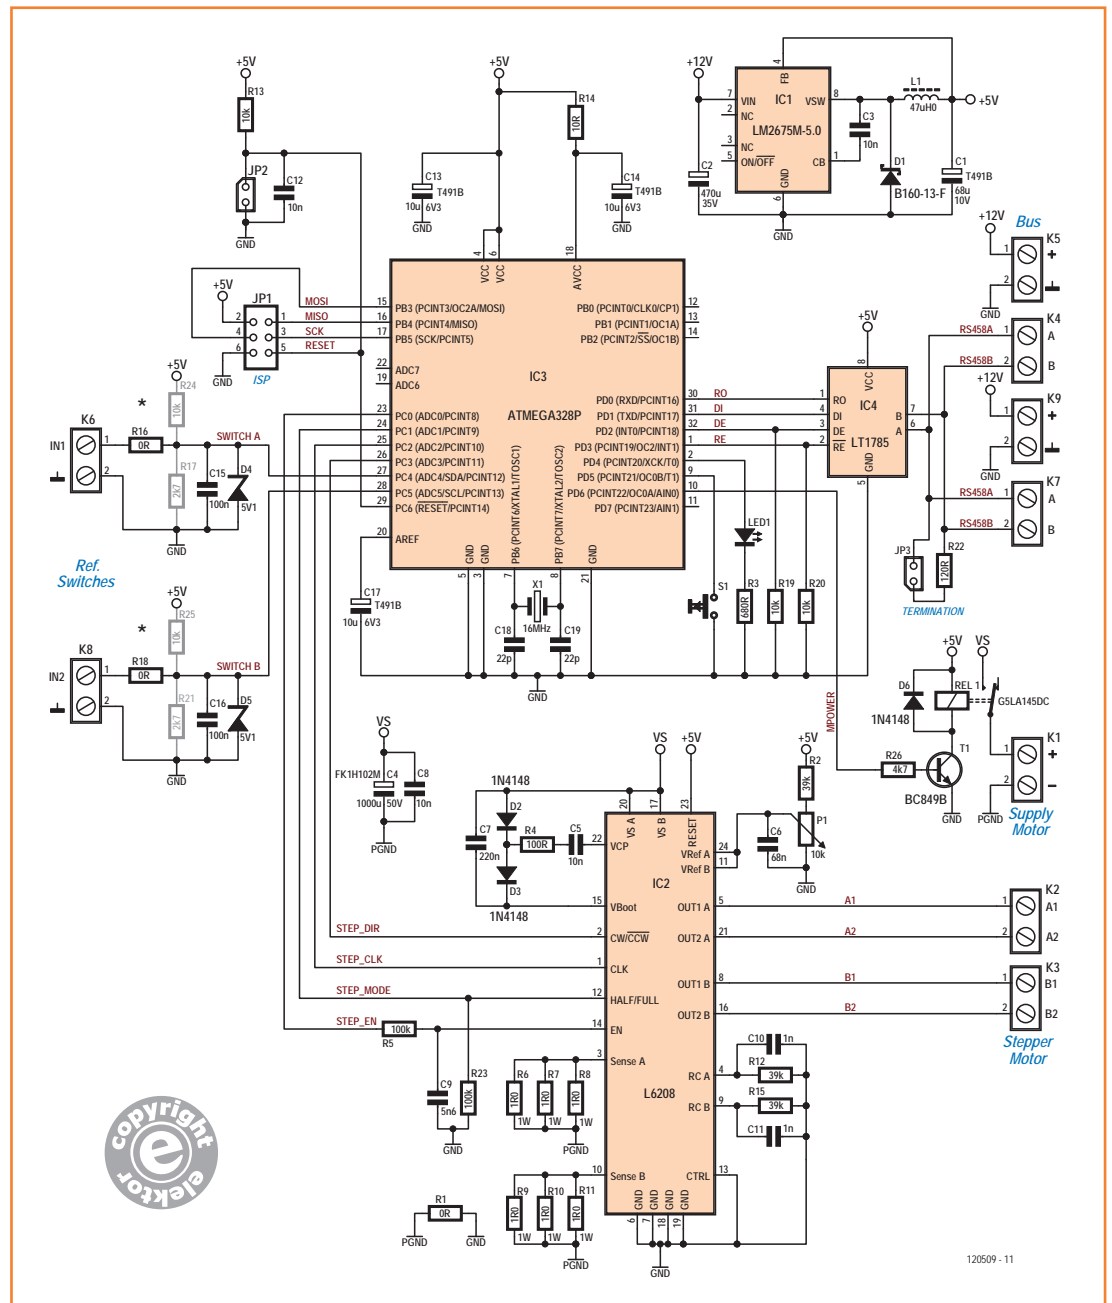

Figure 3. Circuit diagram of the stepper motor board. See the box for the possible position detection switch configurations.
the motor windings, and an over-current detection circuit. It is therefore an easy device to use: we simply need to provide four digital control signals, for rotation direction (CW/CCW), step (CLK), operating mode (HALF/FULL) and strobe (EN). Because of the device's high level of integration the number of external components is kept to a minimum, as can be seen from the circuit diagram in **Figure 3**. The internal current regulator measures the voltage across resistors R6 to R11 on the two sense inputs to determine the motor winding current; the reference value for the regulator is obtained from the  $V_{ref}$  inputs, which in turn comes from trimmer potentiometer P1. With the values given in the circuit diagram the winding current is 100 mA when the reference voltage is set to 33.3 mV. The networks comprising R12 and C10, and R15 and C11, determine the off-time of the power MOSFETs in the bridge driver [3]. The L6208 uses a charge pump to generate the gate voltages needed, which requires external components D2, D3, R4, C5 and C7. R5 and C9 condition the voltage at the enable input.